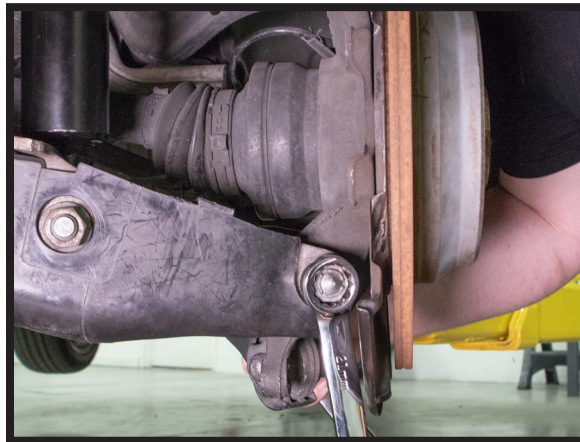

FIGURE 30
4. REINSTALL THE LOWER CONTROL ARM NUT AND BOLT AND TIGHTEN TO MANUFACTURER'S SPECIFICATIONS. (FIGURE 30)